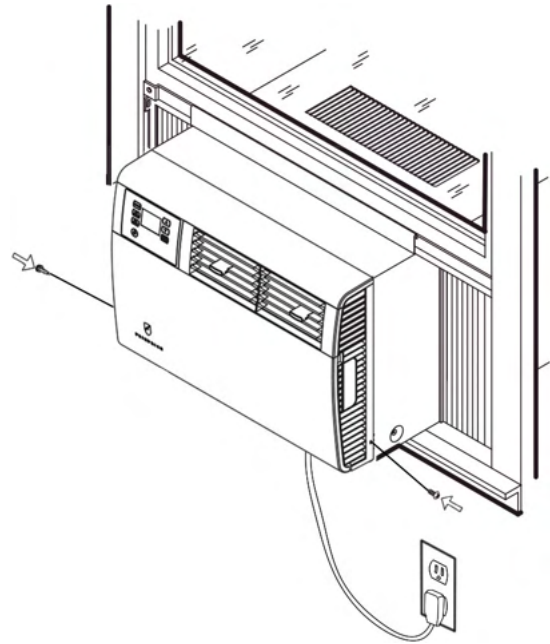

Figure 504 (Remove Entry Gard Screws)
1. Remove the EntryGard™ Screws. (Refer to Figure 504)
1. Carefully team lift the chassis and set it into the cabinet. (Refer to Figure 504)